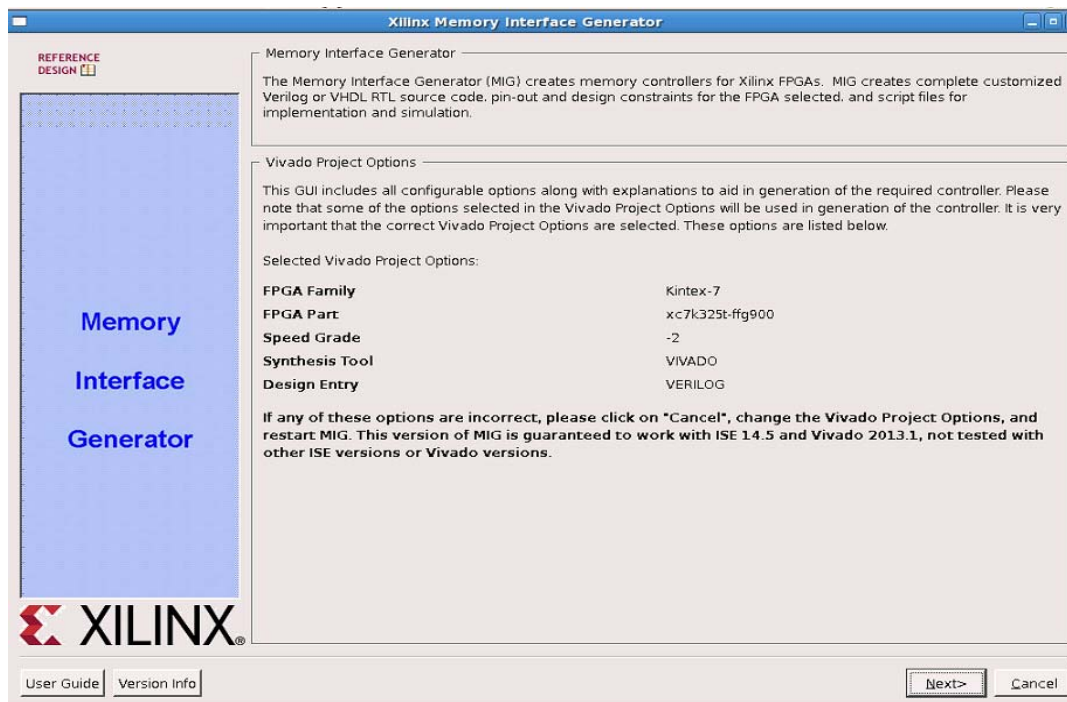

Figure 25: Kintex 7- FPGA Memory Interface Generator (MIG) Front Page
4. In the MIG GUI, review the Vivado project options, and click **Next** (Figure 25).